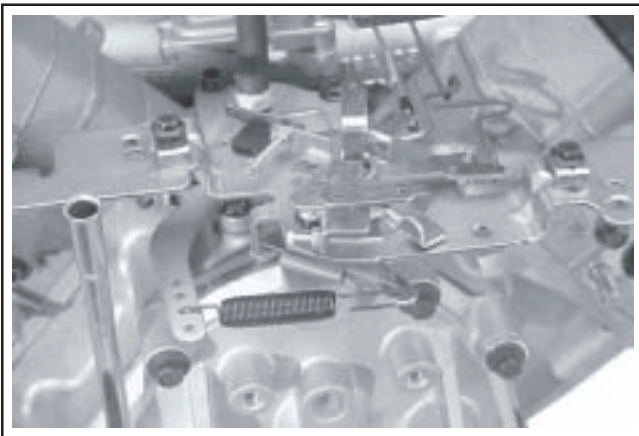

Figure 11-88. Governor/Throttle Linkage Connection Details.
5. Connect the dampening spring to the throttle lever as shown. Hook the governor spring from the throttle control bracket in the appropriate governor lever hole, as indicated in the chart below. Note that the hole positions are counted from the pivot point of the governor lever. See Figure 11-88.